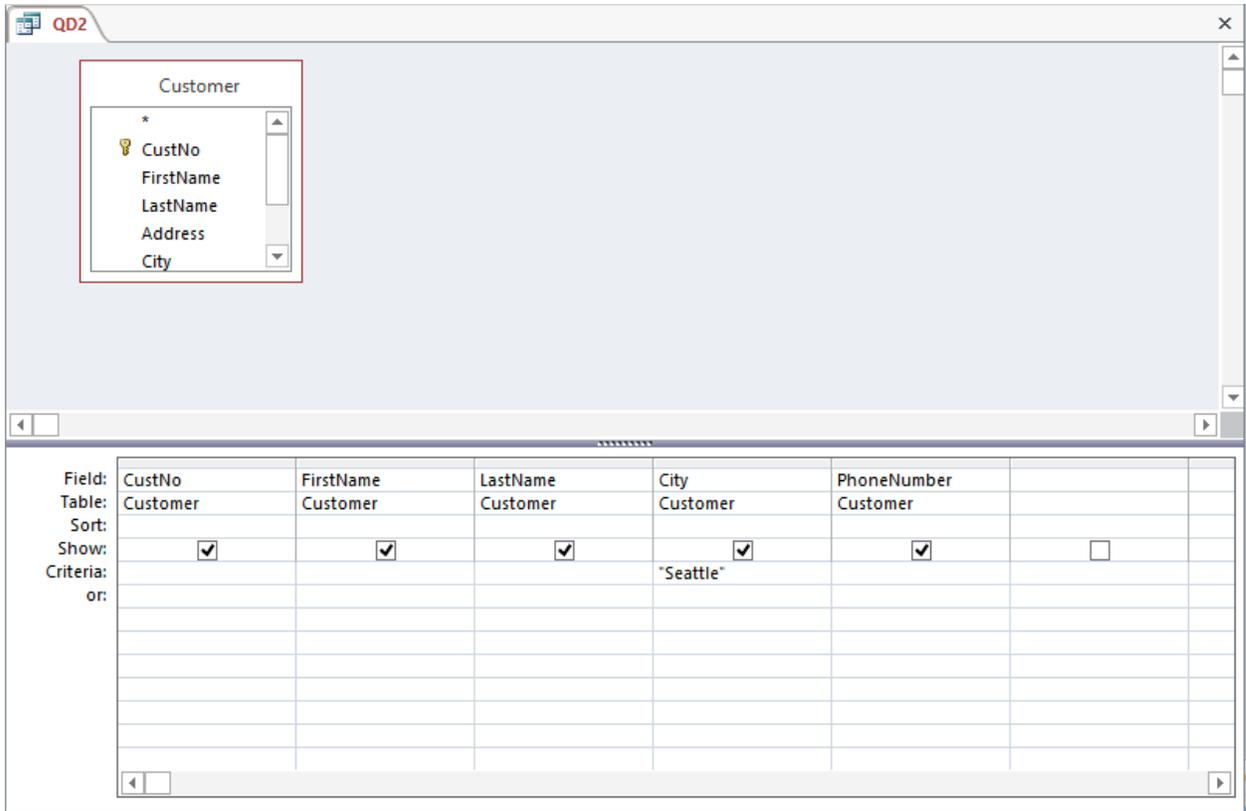

Figure 15: “QD2” with the “Seattle” Criterion
7. Enter a Condition: Next you will insert a condition to limit the list to only customers in Seattle. To accomplish this task, type in the *City* column and the *Criteria* row "Seattle". Be sure to enclose it in double quotes (see Figure 15).